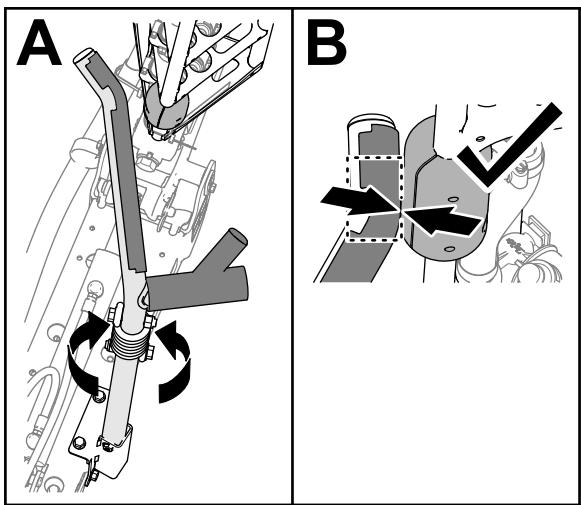

Figure 112
4. Rotate the cradle assemble until the bend in the cradle tube aligns with the slide block on the top tube of the outer boom (Figure 112)
**Note:** The blocks must contact the cradle at the bend in the upper cradle tube (Figure 112).